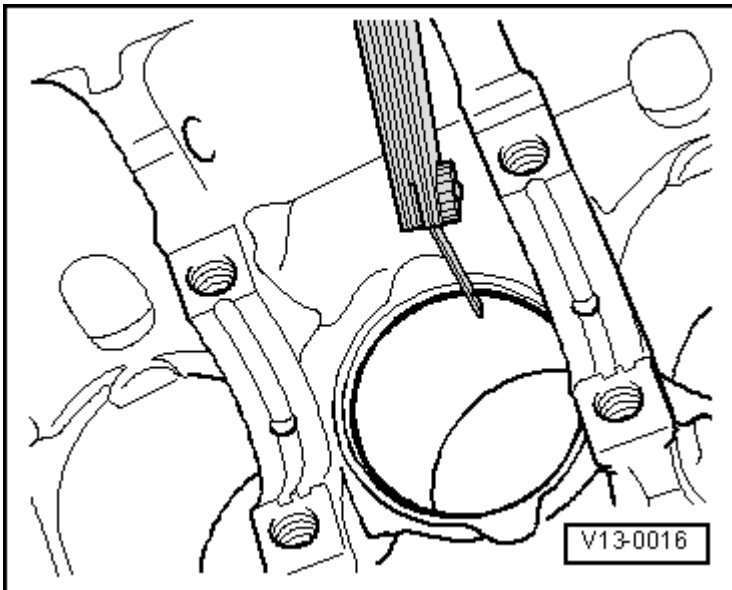

Fig. 23: Checking Piston Ring Gap
- Checking ring gap, refer to **Fig. 23**.